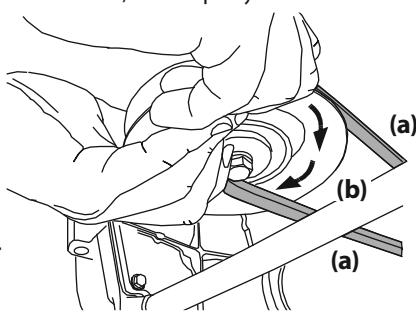

Figure 46
- (a) downward, continue turning the PTO pulley (b) until the PTO belt (a) is rolled off the PTO pulley (b). Refer to Figure 46.
- While holding the PTO belt and PTO pulley together, rotate the PTO pulley to the left (See Figure 46). Continue holding and rotating the PTO pulley and PTO belt until the PTO belt is fully rolled into the PTO pulley.